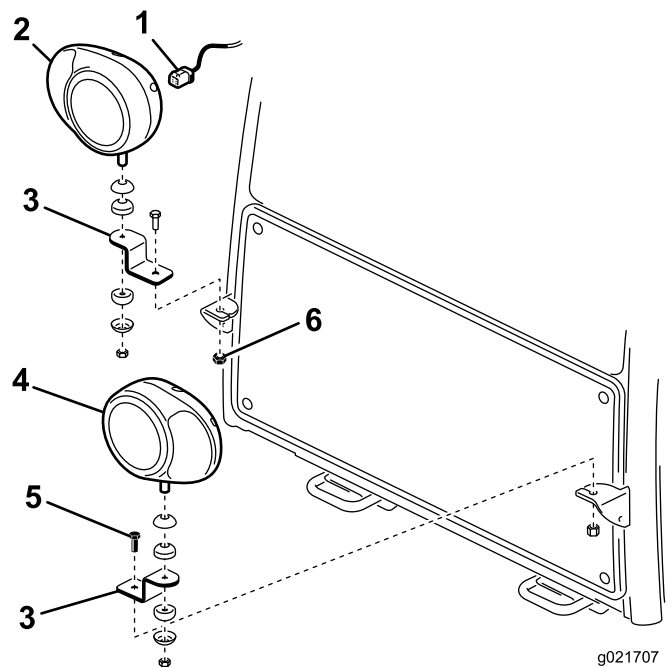

Figure 9
1. Fasten the headlight brackets to the existing brackets on the front of the cab with screws (1/2 x 1 inch) and locknuts (1/2 inch). Position the brackets as shown in Figure 9.
2. Fasten the R.H. and L.H. headlight assemblies to the headlight brackets (Figure 9) with the fasteners supplied with the lights. Make sure the turn signal lens on the headlight is positioned toward the outside of the machine.
4. Route the headlight wire harness underneath the front edge of the operator's platform and connect it to the headlights (Figure 9).